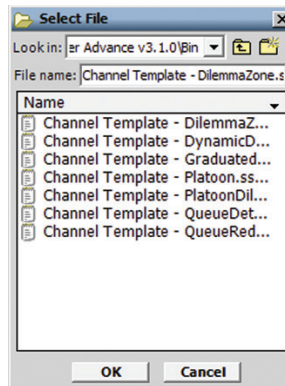

Figure 10.3 – Select Template File Screen
- 2 Specify the file to be imported and click OK (see Figure 10.3).